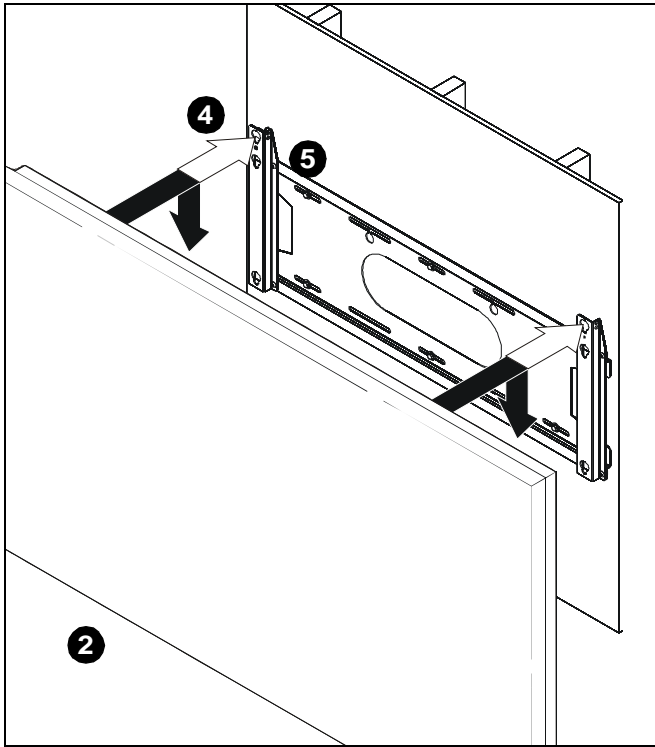

Figure 7
3. Align mounting buttons on display with teardrop mounting holes in mount. (See Figure 7)
4. Move display forward until recessed area of mounting buttons is positioned over lower area of teardrop mounting holes. (See Figure 7)
5. Lower display until recess area of mounting buttons is seated in lower area of teardrop mounting holes. (See Figure 7)